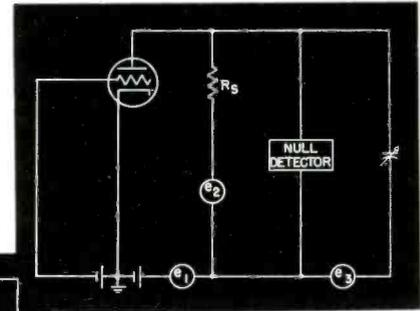

Fig. 2. Simplified bridge circuit for measuring R_p of a vacuum tube.
Upon examining Eq. (7), the expression for R_p , it becomes apparent that the increments of alternating voltage and current involved correspond to those for h_{11} of the transistor. Thus, v_e , i_e , and v_c correspond to v_p , i_p , and v_o , respectively, if the transistor is reversed when it is inserted into the bridge so that the emitter side is inserted into the plate terminal of the bridge and the collector is inserted into the grid terminal. The simplified bridge circuit for measuring R_p and the associated circuit for measuring h_{11} are shown in Figs. 2 and 3.